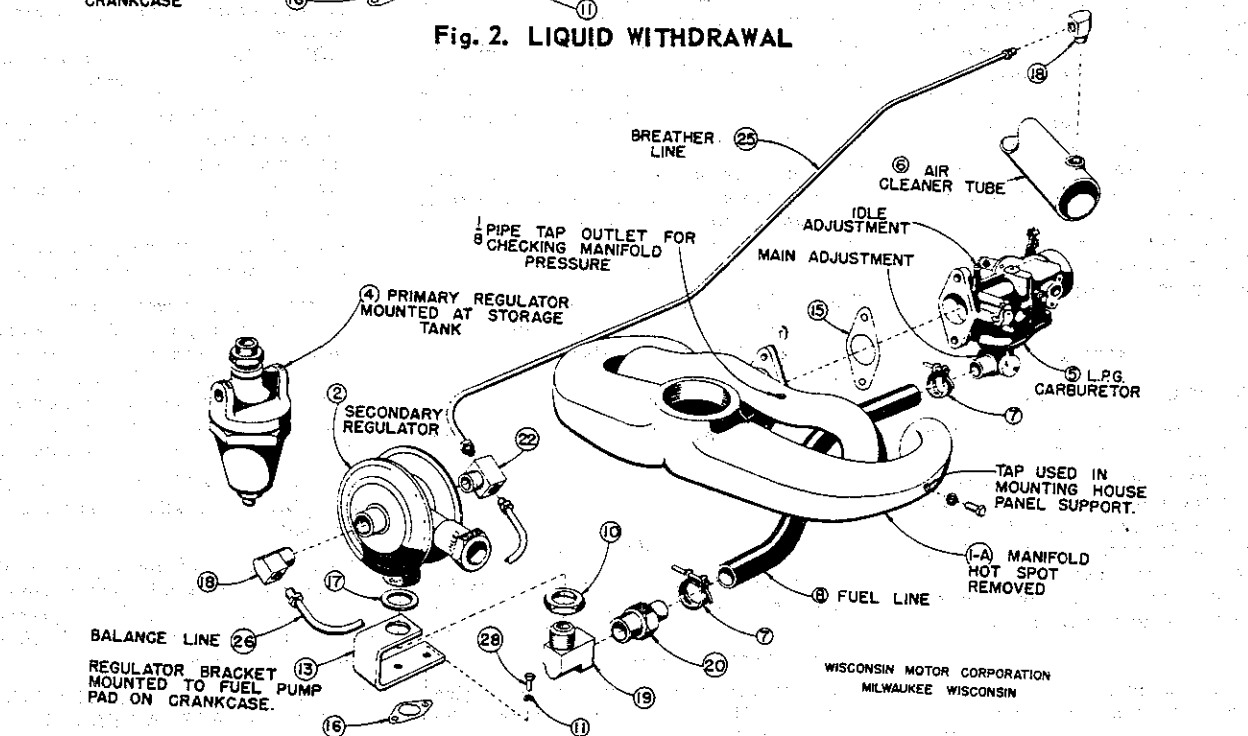

Fig. 3. VAPOR WITHDRAWAL
2. Before attempting to start a new engine, refer to Fig. 3 or 4 and adjust the carburetor as follows: Turn idle adjustment